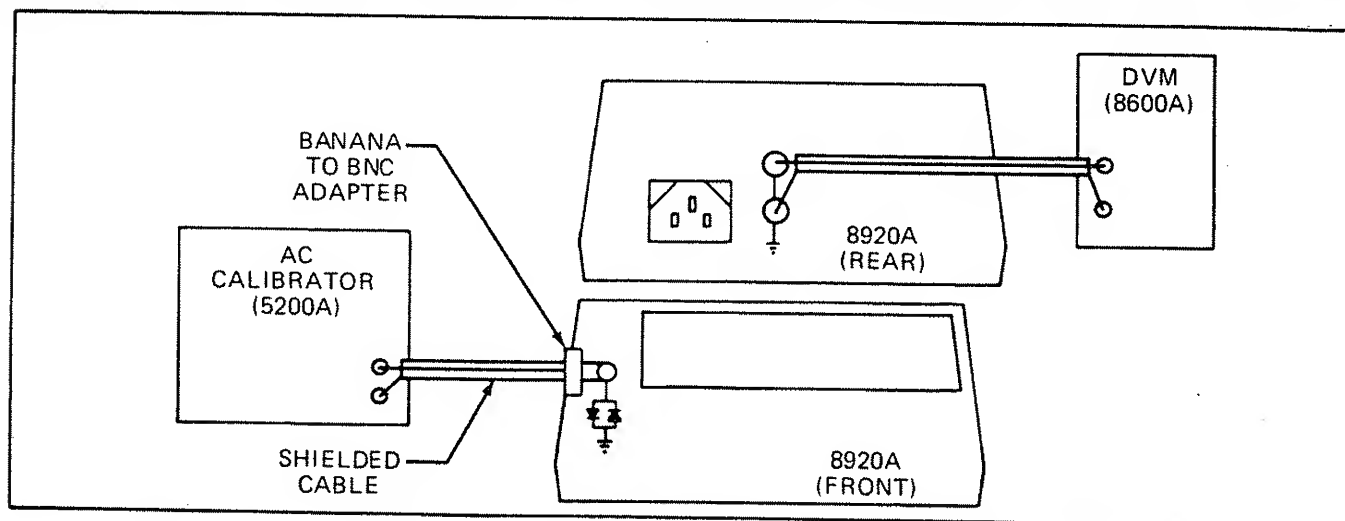

Figure 4-6. Linear Analog Output Test Set-Up (8920A only)
1. Set up the calibration test equipment as shown in Figure 4-6.